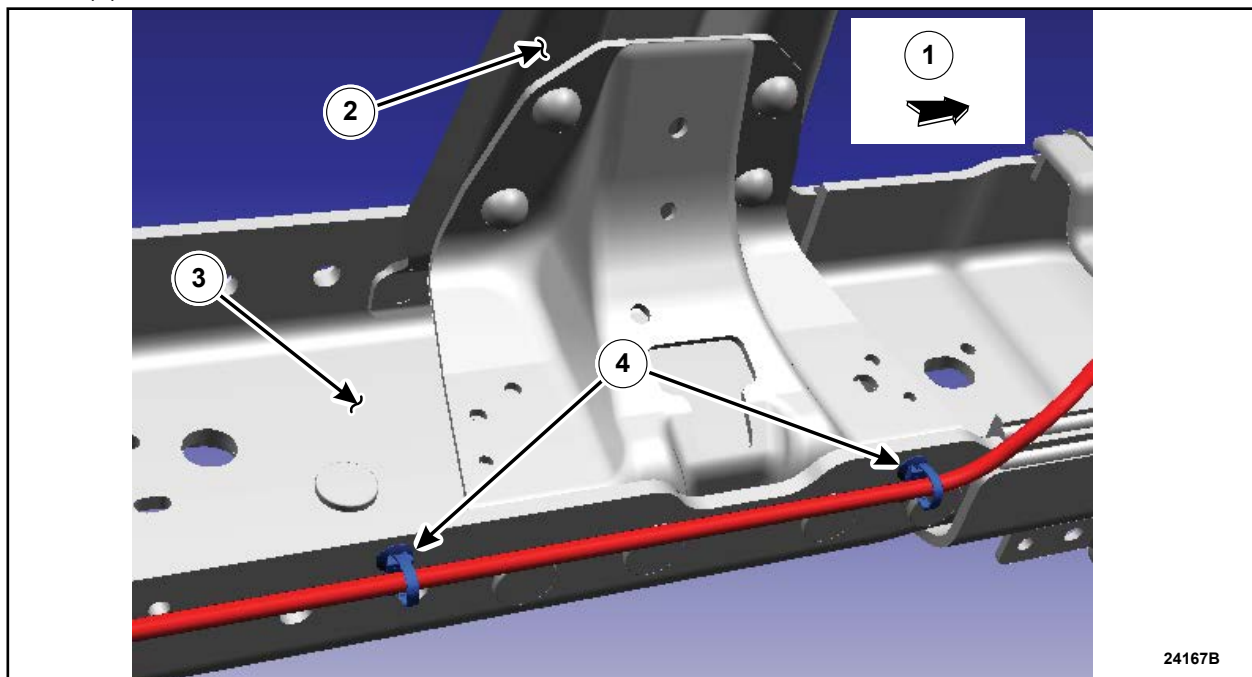

FIGURE 15
1. Detach the two (2) DEF pressure line retainers that retain the line to the frame, under the number 4 crossmember as shown in Figure 15. Position the DEF pressure line aside.